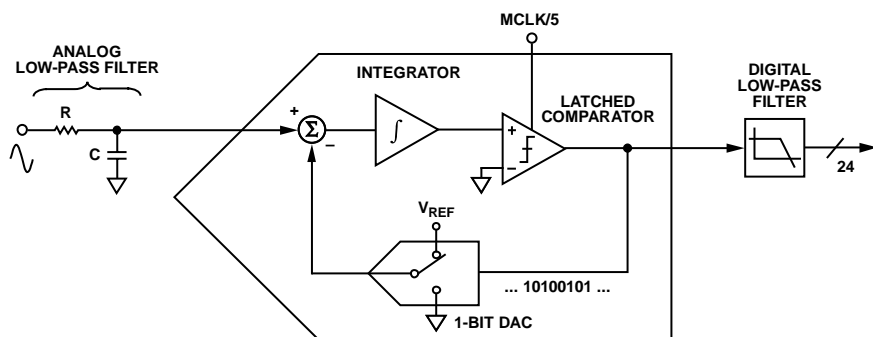
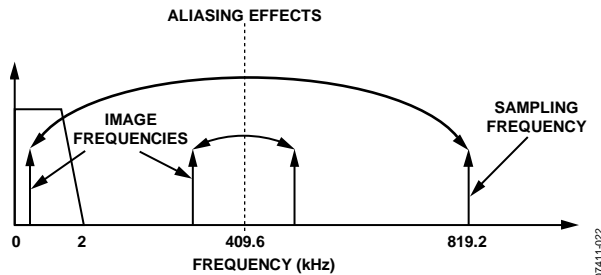

Figure 44. First-Order Σ - Δ ADC
Figure 45. ADC and Signal Processing in Current Channel Outline Dimensions
For simplicity, the block diagram in Figure 44 shows a first-order Σ - Δ ADC. The converter is made up of the Σ - Δ modulator and the digital low-pass filter (LPF).
Figure 44 also shows an analog LPF (RC) on the input to the modulator. This filter is present to prevent aliasing, an artifact of all sampled systems. Aliasing means that frequency components in the input signal to the ADC that are higher than half the sampling rate of the ADC appear in the sampled signal at a frequency below half the sampling rate. Figure 45 illustrates the effect. Frequency components (the black arrows) above half the sampling frequency (also known as the Nyquist frequency, that is, 409.6 kHz) are imaged or folded back down below 409.6 kHz. This happens with all ADCs, regardless of the architecture. In Figure 45, only frequencies near the sampling frequency (819.2 kHz) move into the band of interest for metering (40 Hz to 2 kHz). This allows the use of a very simple LPF to attenuate high frequency (at approximately 819.2 kHz) noise and prevents distortion in the band of interest.
For conventional current sensors, a simple RC filter (single-pole LPF) with a corner frequency of 10 kHz produces an attenuation of approximately 40 dB at 819.2 kHz (see Figure 45). The 20 dB per decade attenuation is usually sufficient to eliminate the effects of aliasing for conventional current sensors. However, for a di/dt sensor such as a Rogowski coil, the sensor has a 20 dB per decade gain. This neutralizes the -20 dB per decade attenuation produced by one simple LPF. Therefore, when using a di/dt sensor, care should be taken to offset the 20 dB per decade gain. One simple approach is to cascade two RC filters to produce the -40 dB per decade attenuation needed.